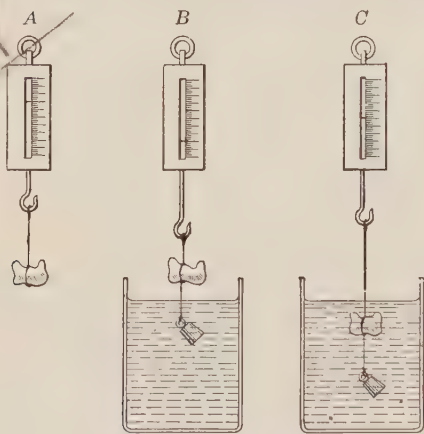

FIGURE 82. — SPECIFIC GRAVITY OF LIGHT SOLID.
**53. Irregular Body Lighter Than Water.** — The sinker method is used for finding the specific gravity of a body that floats in water. The sinker is usually a piece of metal and is heavy enough when attached to the bottom of the body to drag it beneath the surface of the water. These weighings are then made with a spring balance: (1) body in air (Figure 82, *A*); (2) body in air with attached sinker immersed in water (*B*); and (3) body with attached sinker both immersed in water (*C*).